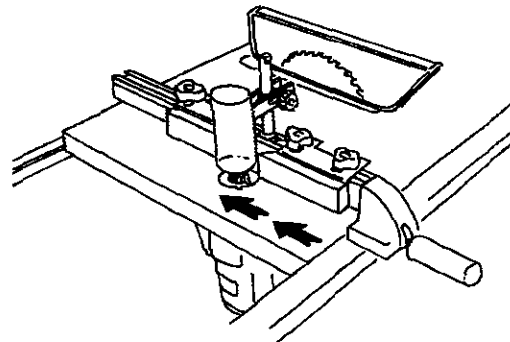

Fig. 9
- Direction of feed of the workpiece is from right to left or from the front of the saw toward the back with the bit located in the fence opening. *See Figure 9.*